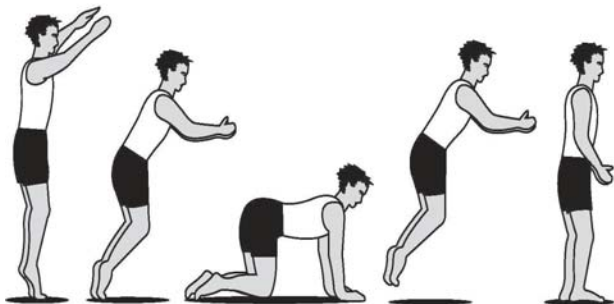

Figure 6: Hands and knees drop
- From the standing position, prime the bed several times. Lift upward with your hips, reach forward with your hands, and land on all fours. Look slightly in front of your hands on landing. Push to rebound to your feet (see Figure 6).